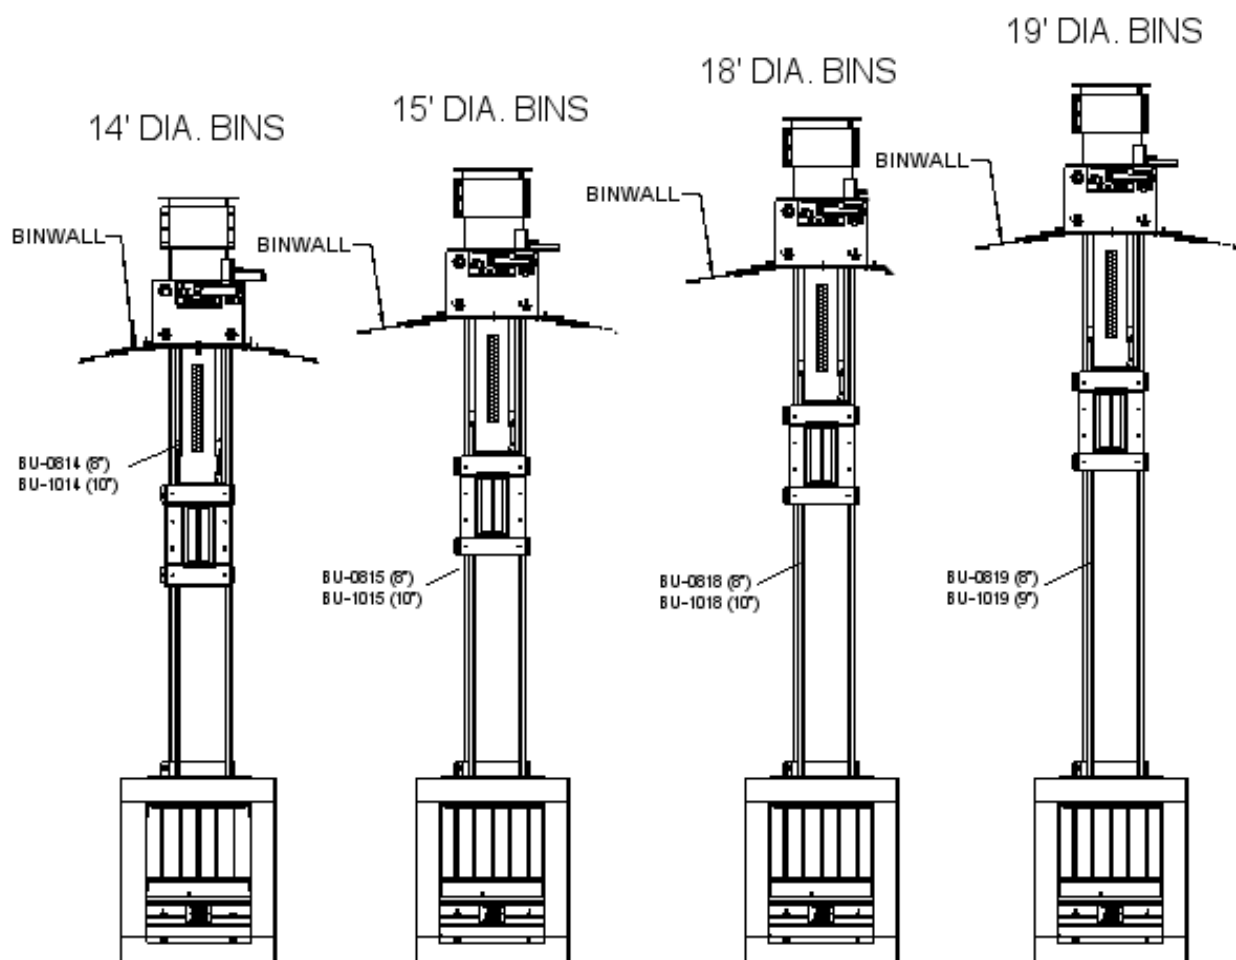

Figure 4.15
1. Install galvanized tube section as seen in Figure 4.15 to 4.19. Match the tube configurations to the figure corresponding to your bin diameter.
3. Place galvanized tube section inside the bin and make sure that the tube end with "DISCHARGE" written on it is facing towards the outside of bin (Figure 4.15 to 4.19).